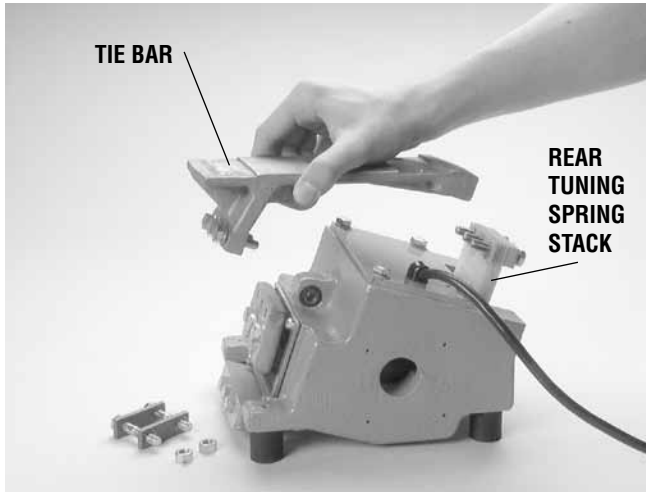

FIGURE 6
- Remove, in order, the bolts securing (a) the upper end of the rear tuning spring stack to the tiebar, (b) the lower ends of the spring lever arms to the body housing, and (c) the lower end of the tiebar to the spring bar. Lift the tray-tiebar-lever assembly away from the body housing (see Figure 6).